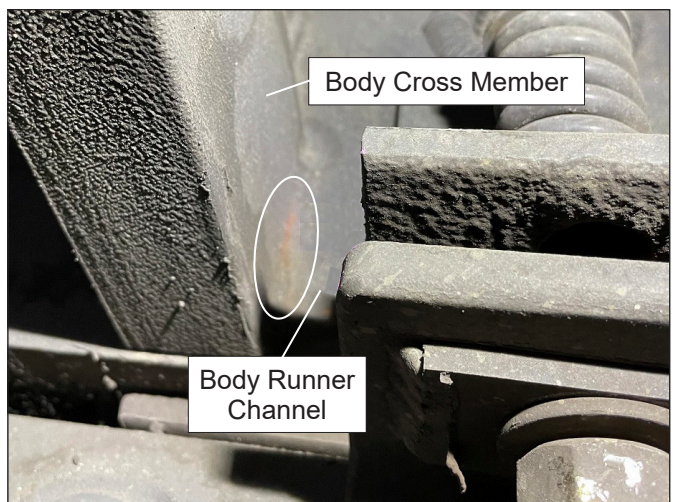

Figure 9 — Example of Cracking in Body Cross Member Weld
- Drill a $\frac{1}{8}$ " hole if the crack is on a body cross member (refer to Figure 9).